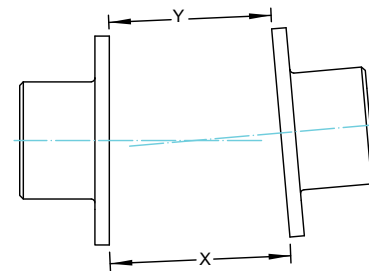

Figure 8 - Angular Misalignment.
8.7. The “Angular Misalignment” value is the maximum difference between the measurements X and Y taken at opposite ends of the hub flanges, as shown in Figure 8.